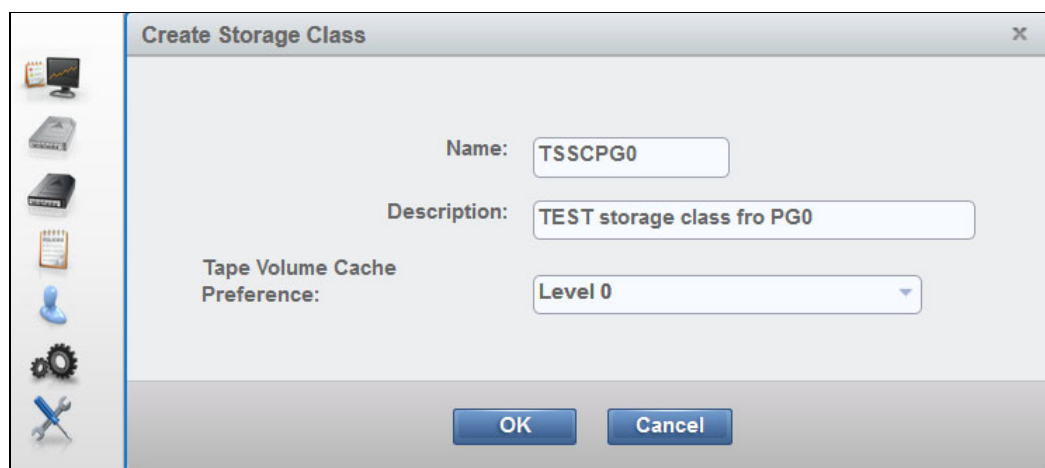

Figure I-5 Define Storage Class for TEST
1. Define an SC for TEST named TSSCPG0. This SC is for volumes that are unlikely to be used (level 0 or PG0), as shown in Figure I-5. The other SCs must be defined in a similar way. Ensure that Tape Volume Cache Preference is set according to the defined SC name.